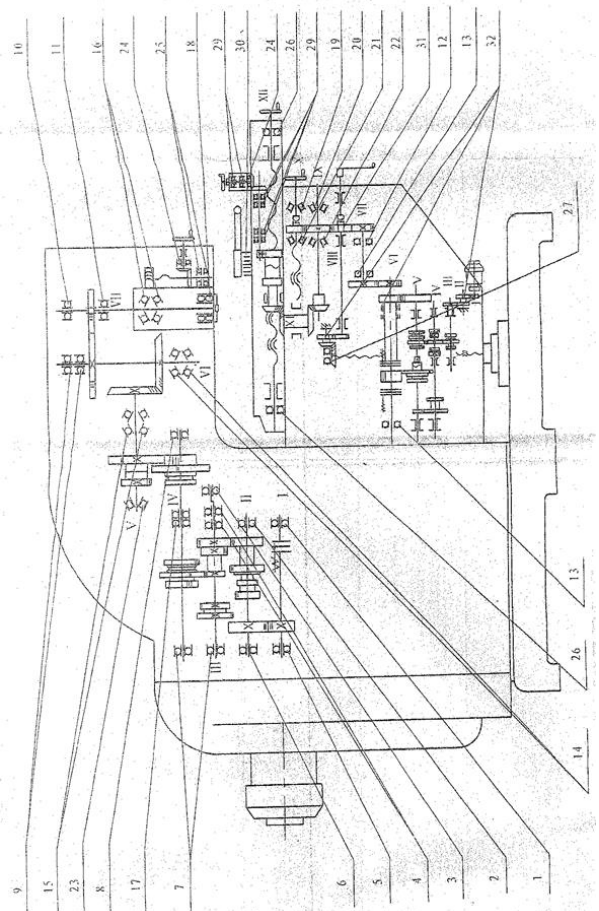

Fig 12
Rolling bearing position of the machine is on the Fig.12.
**BEARING LIST ( See Fig.12 )**